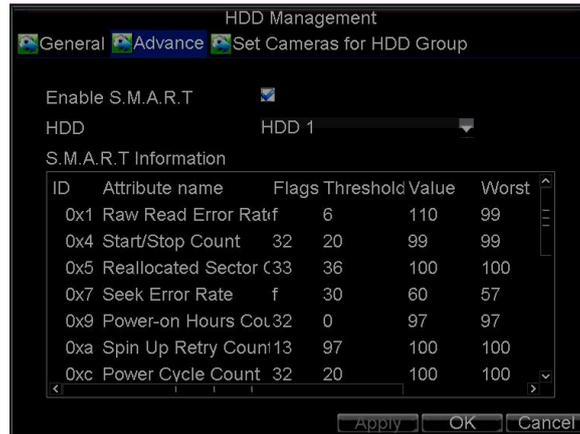
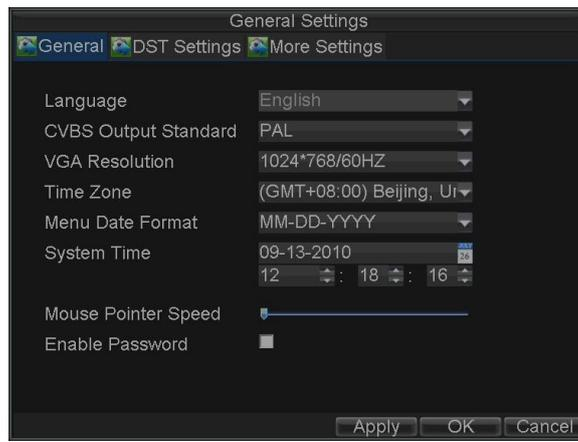

Figure 7. HDD SMART Menu
Figure 1. General Settings Menu
User can also click Menu > HDD to enter the HDD management menu, as shown in Figure 1 and then select the **Advance** option to enter the SMART menu, as shown in Figure 7. User can enable the SMART function and view the SMART information as well.
1. Click Menu > Settings > General to enter the General Settings menu, shown in Figure 1.